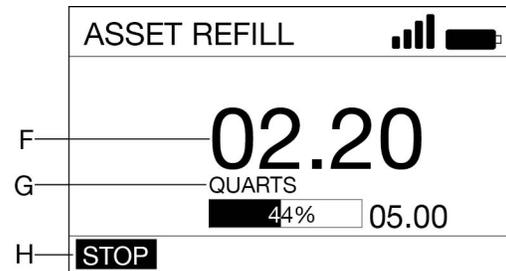

FIG. 41
7. Pull the trigger to dispense. The display shows the amount dispensed (F) (FIG. 41).